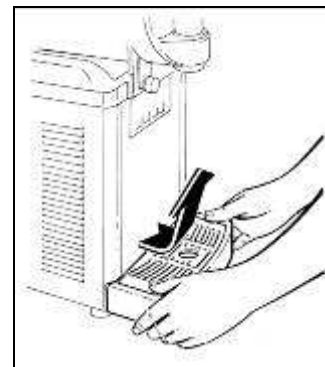

Fig. 10
- **R**emove the drip tray by rotating it upward and pulling it outward (fig.10).